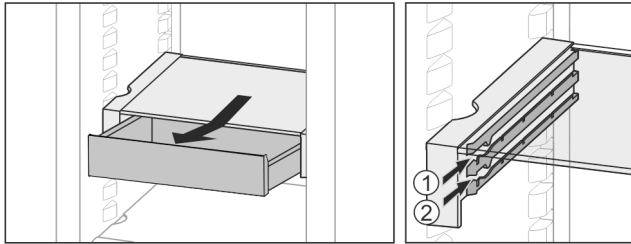

Fig. 18
- ▶ Slide back at the height you want Fig. 18 (1) or Fig. 18 (2).